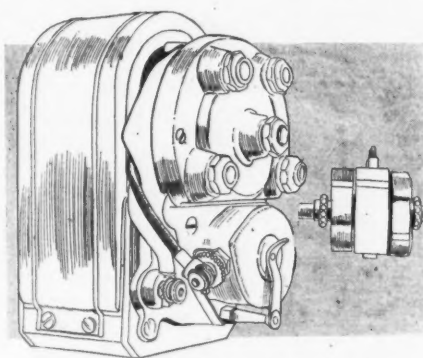

FIG. 14—REMY RL AND ROTOR
**Remy**—The feature of the Remy line for 1913 is the new model RL shown in Fig. 14. It has a stationary winding, thus doing away with moving contacts. A single winding of coarse wire is held rigidly between the pole pieces, to which permanent magnets are fitted. The steel inductor shaft is the only revolving part, and this shaft is shown in Fig. 14. The